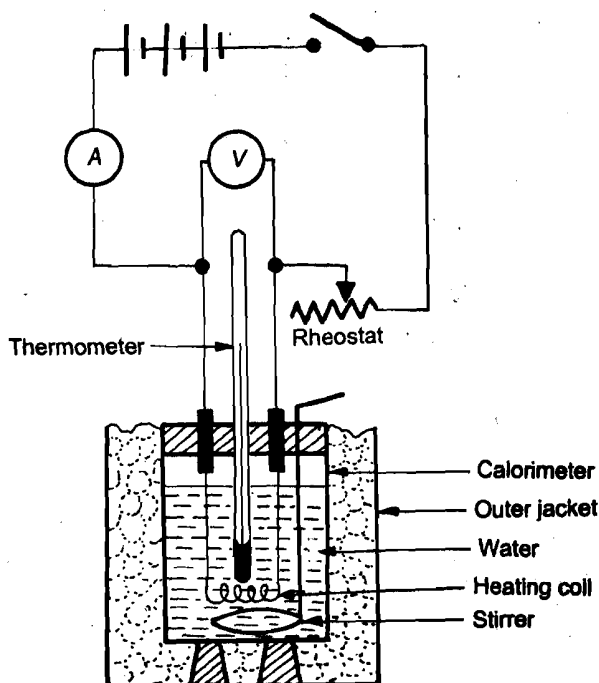

Fig.3.1: Experimental arrangement for specific heat capacity of water
3. Place the calorimeter cup (with water), stirrer and a sensitive thermometer inside the empty can. Complete the circuit as shown in Fig.3.1. You should not switch the power on yet.